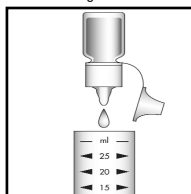

Figure 2
2. Add 2 drops of S-8500 Activator Solution (fig. 2). Cap the sample cup and shake it to mix the contents.